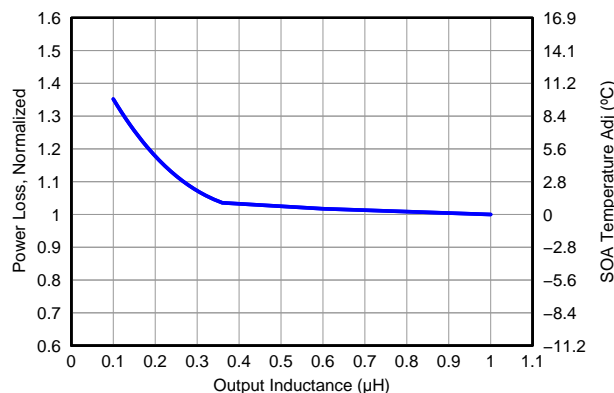

Figure 9. Normalized Power Loss vs. Output Inductance
- Normalized Power Loss for output inductor ≈ 1.04 (Figure 9)
- SOA adjustment for output inductor $\approx 1^\circ\text{C}$ (Figure 9)